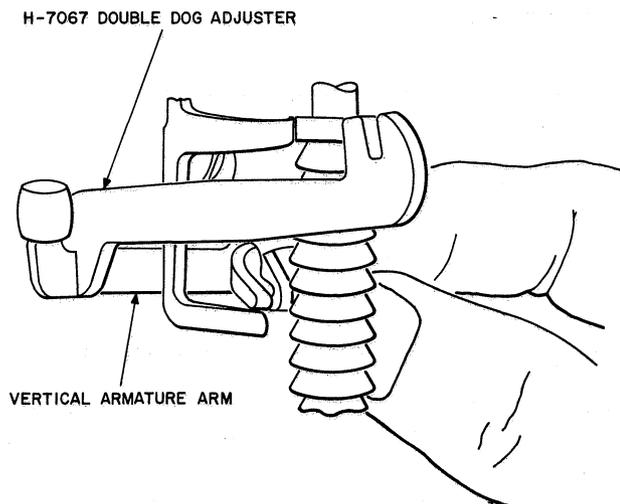

Fig. 17 — Method of Bending Vertical Armature Arm of Vertical Armature Assembly Equipped with Arm
(1) To replace the vertical armature assembly, lift the release armature from the lugs on the release magnet bracket and rotate the release armature so that it is at right angles to its normal position. In some cases it may be necessary to remove the release contact spring assembly to permit the armature to be lifted from the lugs on the bracket. If this is necessary, loosen the screw which mounts the release magnet bracket to the frame with the 563A and 564A offset screwdrivers. Remove the release contact spring assembly from the frame by drawing the assembly toward the front or rear of the switch as required to free the contact springs from the stud on the release armature. Take care not to break the leads on the spring assembly when the spring assembly is supported by them. Remove the vertical armature bearing pin clamp and vertical armature bearing pin as described in 3.06(1).
(2) When the bearing pin is removed, remove the vertical armature from the right side of the switch by tilting it downward so the rear end of the armature drops below the lug on the frame which supports the bearing pin clamp. Turn the armature slightly to permit its removal. When the switch is equipped with an armature arm, the removal of the armature will be facilitated if the arm is bent in a direction away from the frame. To bend the arm use the AECO H-7067 adjuster applied at the stud end of the arm while holding the armature with the fingers. See Fig. 17. Also in this case replace the vertical interrupter